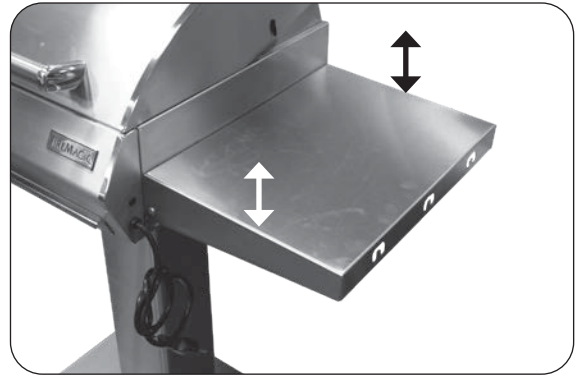

Fig. 19-1 Shelf up and locked
1. To lower the shelf, grab the middle of the shelf on both sides and lift upward (see Fig. 19-1). Then allow the end of the shelf to rotate down as pictured in Fig. 19-2 and Fig. 19-3.